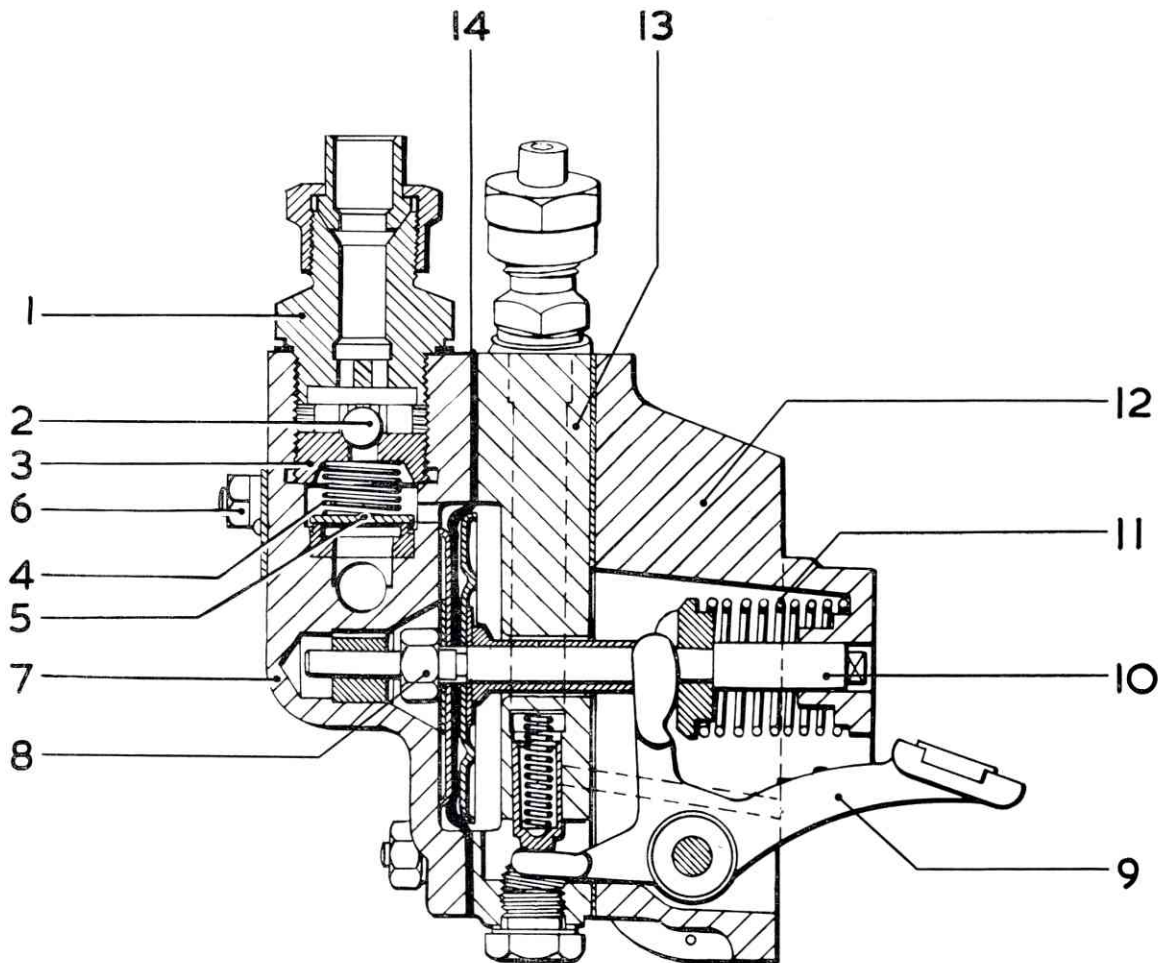

FIG. 94. SECTION THROUGH THE FUEL FEED PUMP
The diaphragm type feed pump, Fig. 94, is mounted on the side of the injection pump housing and provides an uninterrupted supply of fuel oil at constant pressure to the injection pump inlet.
Refer to Fig. 94.
1. Unscrew union (1), Fig. 94, to detach disc (5) and spring (4), the ball valve (2) can then be dismantled by unscrewing valve seat (3) from union (1).